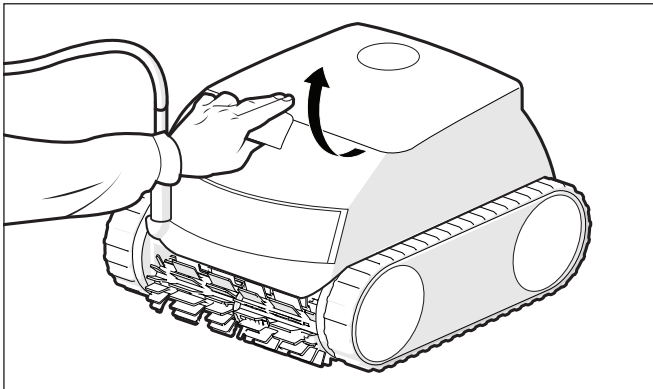

Figure 11. Lift Cleaner Cover
2. Unlatch the cleaner cover to access the canister (Figure 11).